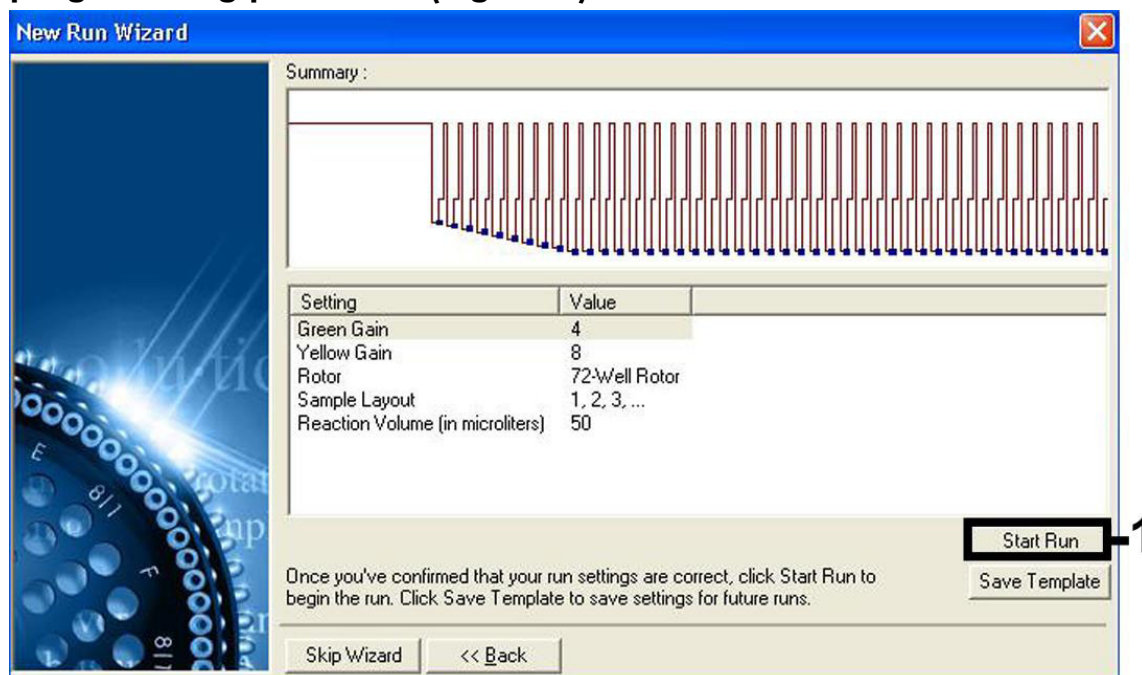

Figure 7. Starting the run. Note that, on the Rotor-Gene 3000, the software will define the fluorescence dyes as “FAM/Sybr” and “JOE”.
Starting the run	Figure 7
10. The gain values determined by the channel calibration are saved automatically and are listed in the last menu window of the programming procedure (Figure 7). Click “Start Run”.